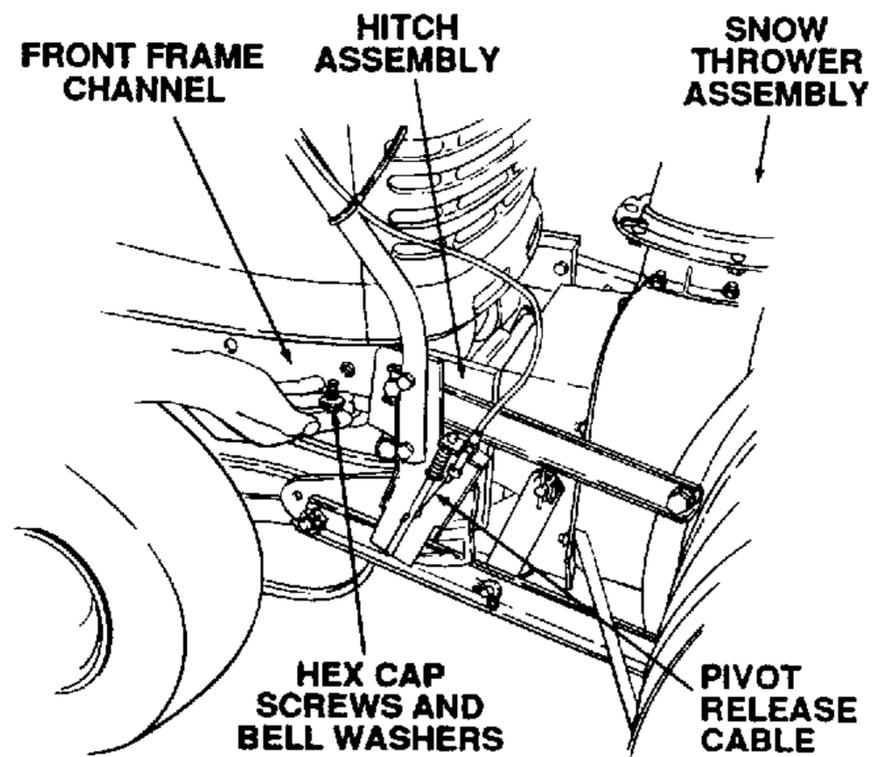

Figure 7-35. Attaching Snow Thrower to Tractor Frame.
3. Lift the snow thrower assembly upward and move it rearward to slide the hitch channel brackets fully into the frame channels of the tractor. Secure the assembly to both sides of the tractor frame using the hex cap screws (10) and bell washers (11). See Figure 7-35.